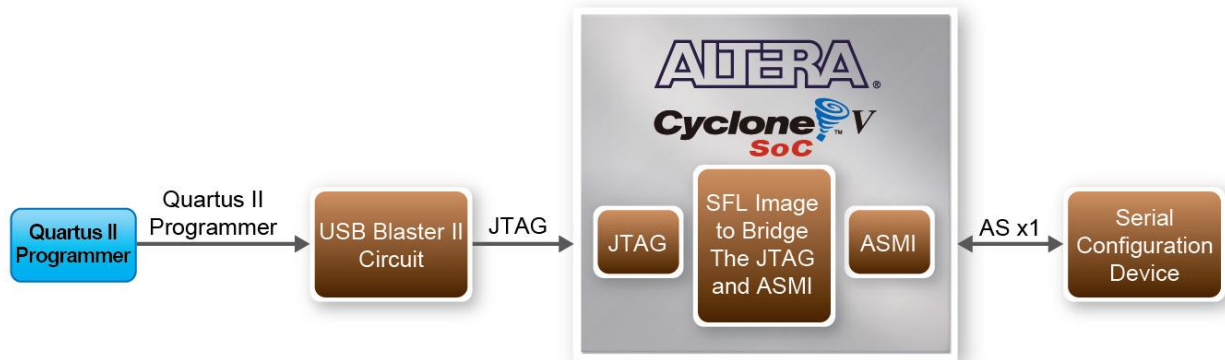

Figure 3-11 Programming a serial configuration device with SFL solution
- Users need to use Serial Flash Loader (SFL) to program the serial configuration device via JTAG interface. The FPGA-based SFL is a soft intellectual property (IP) core within the FPGA that bridge the JTAG and Flash interfaces. The SFL Megafunction is available in Quartus II. **Figure 3-11** shows the programming method when adopting SFL solution.